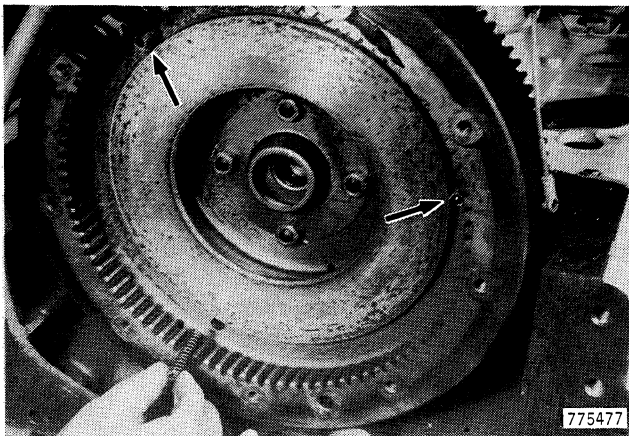

Figure 110
- 15. Put the three springs in the holes in the flywheel, Figure 110.